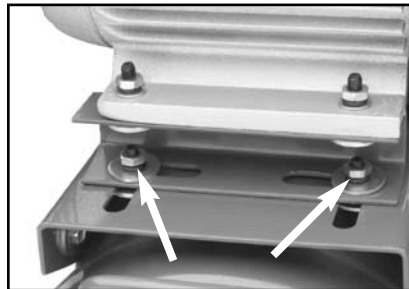

Figure 12. Mounting bolt locations.
2. Loosen the four nuts (one side shown in **Figure 12**) that secure the motor to the compressor frame so the motor can slide towards crankcase, relieving the tension on the V-belt.